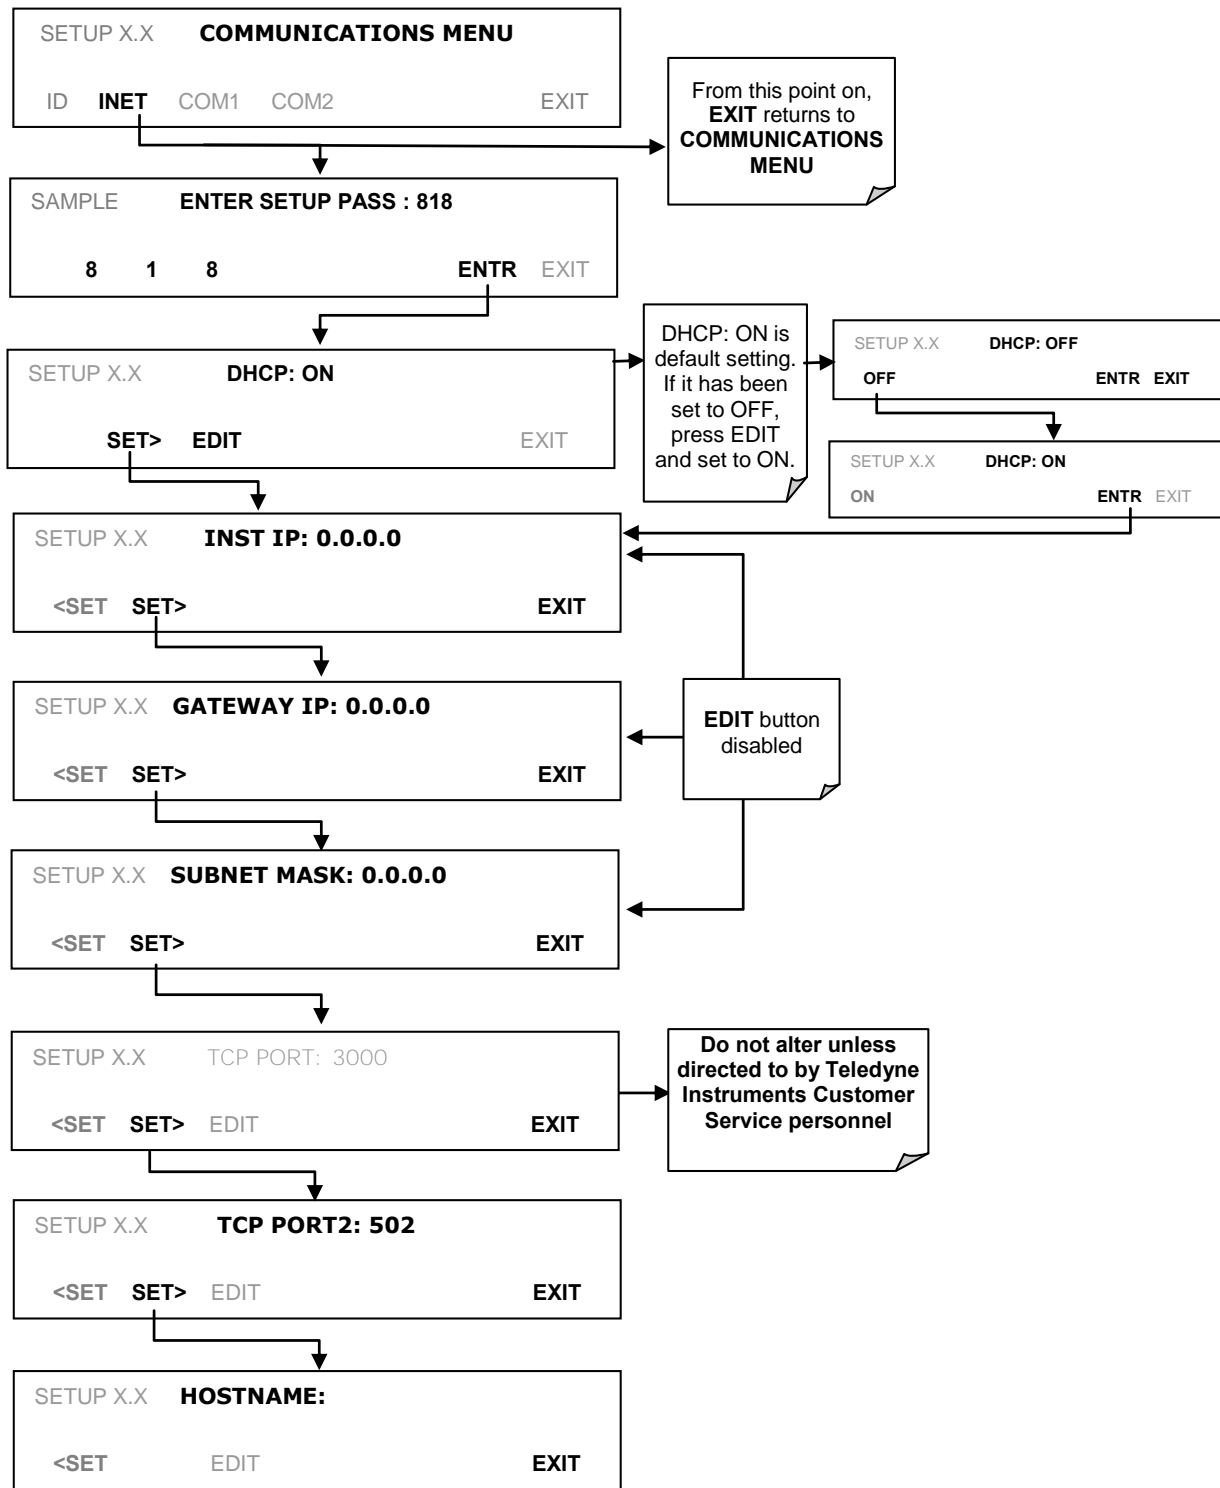
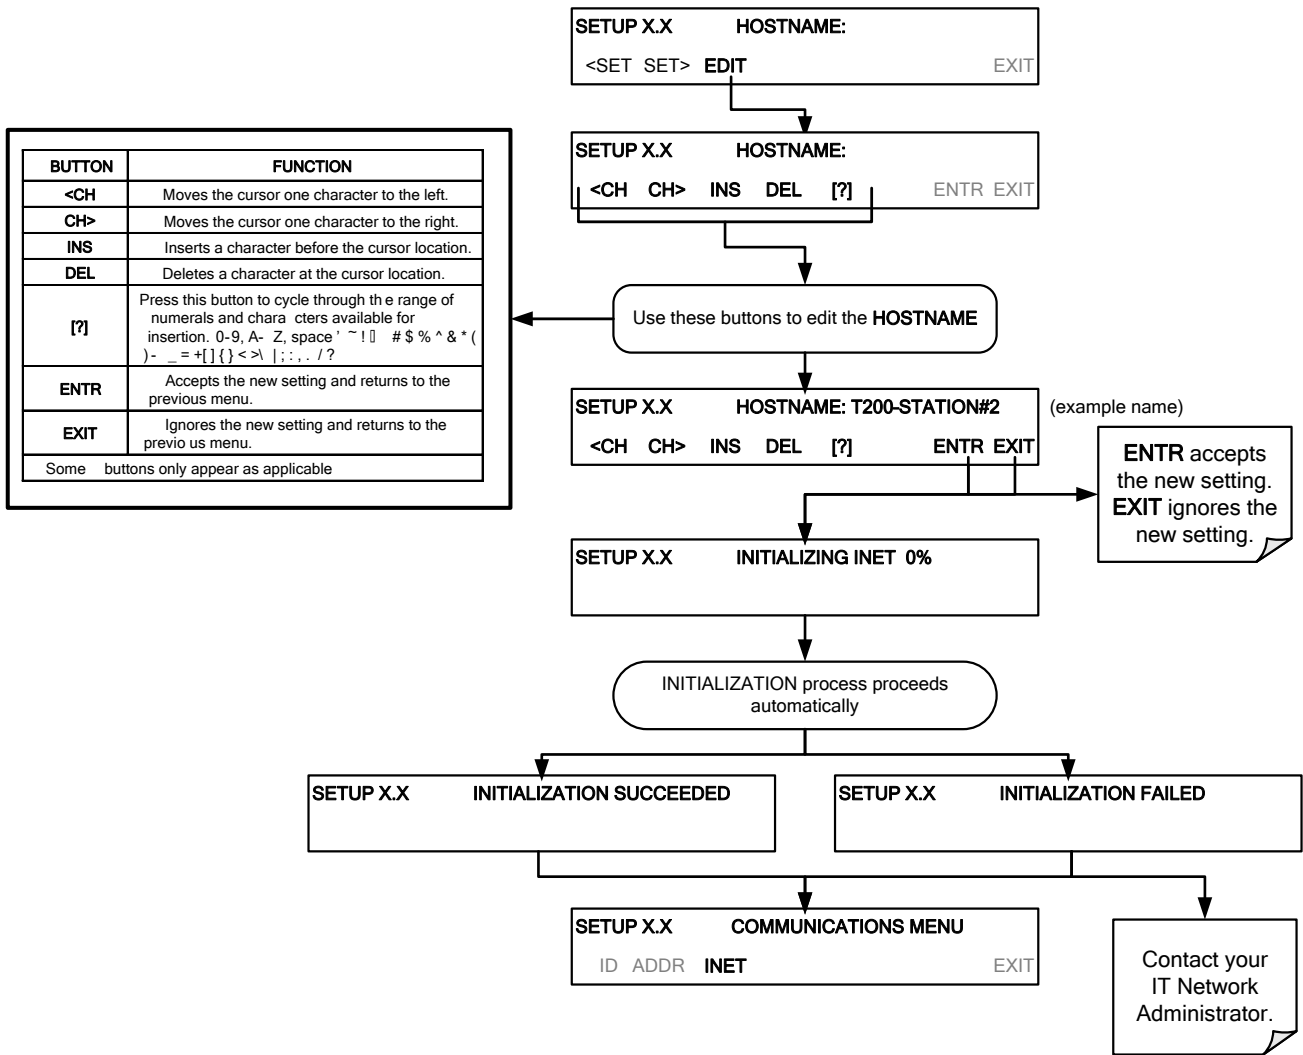

Figure 6-5. COM – LAN / Internet Automatic Configuration (DHCP)
Figure 6-6. COM – Change Hostname
3. Enter the INET menu and follow the setup sequence as shown in Figure 6-5.
The **HOSTNAME** is the name by which the analyzer appears on your network. The initial default Hostname is blank. To assign or change this name (particularly if you have more than one T200 analyzer on your network, where each must have a different Hostname), enter the **SETUP>COMM>INET** menu and scroll to the **HOSTNAME** menu as in Figure 6-5; make the changes as shown in Figure 6-6: